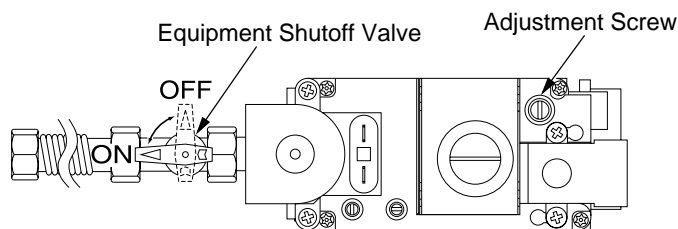

Figure 48 - Turning Equipment Shutoff Valve to the OFF Position
5. Turn equipment shutoff valve clockwise  to the OFF position (see Figure 48). Do not force.
6. Wait five (5) minutes to clear out any gas. Then smell for gas, including near the floor. If you smell gas, **STOP!** Follow "B" in the safety information above. If you don't smell gas, go to the next step.
- Turn the adjustment screw marked PILOT clockwise to decrease or counterclockwise to increase the flame to proper size (see Figure 48, page 25). Do not remove the adjustment screw.